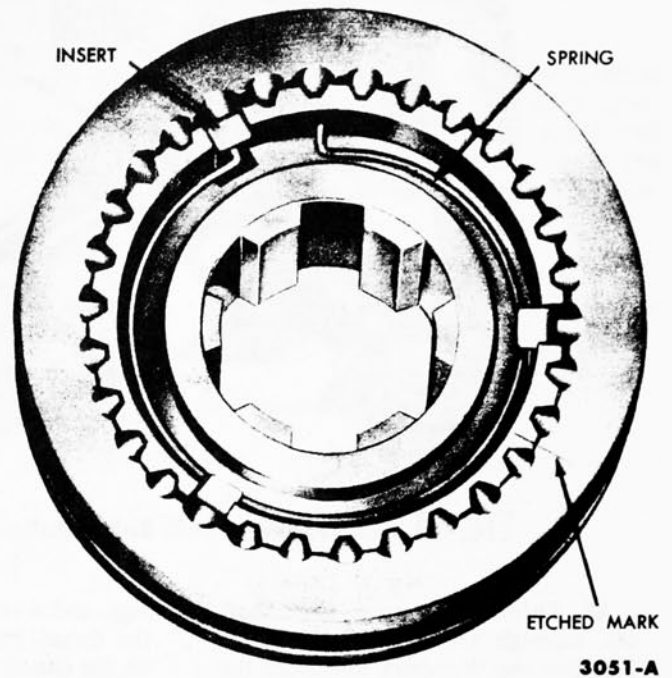

FIG. 13—Synchronizer Assembly
10. Assemble the synchronizer by placing the three inserts in position. Place a spring at each end of the hub, and hook one spring end in an insert (Fig. 13). Align the etched marks on the sleeve and hub splines, and slide the sleeve over the hub with the shifter fork groove toward the rear.
Bushing installation—Fig. 13, Part 3-2.